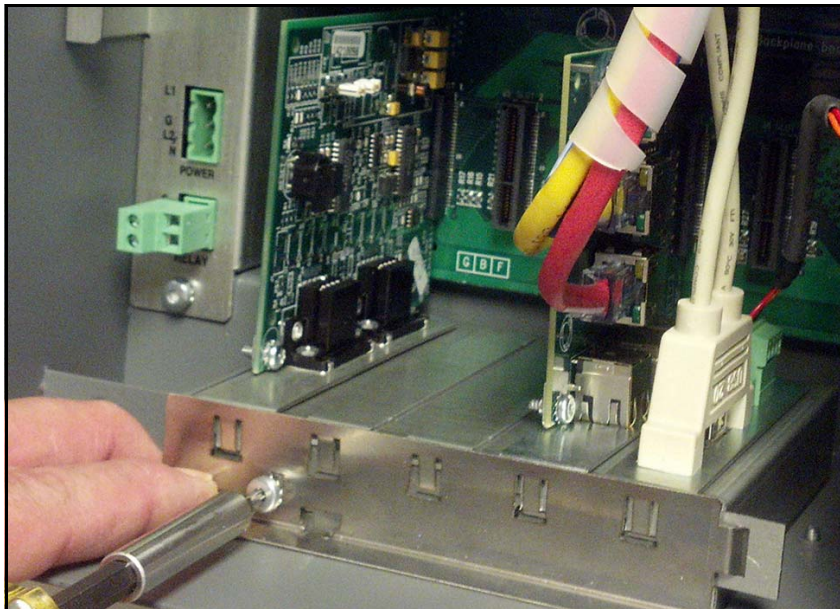

Figure 13. Replace Comm Module Clamp And Securing Screw
5. Relocate other Comm module(s) in available slot(s). If CDIM module was in slot 4 relocate it to slot 1 or 2. Replace Comm module clamp and securing screw (see Figure 13).